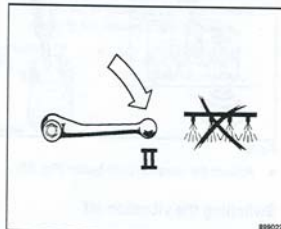

Fig. 38
- Switch the cock valve to position "II" (Fig. 38). The gravity sprinkler system is switched off.